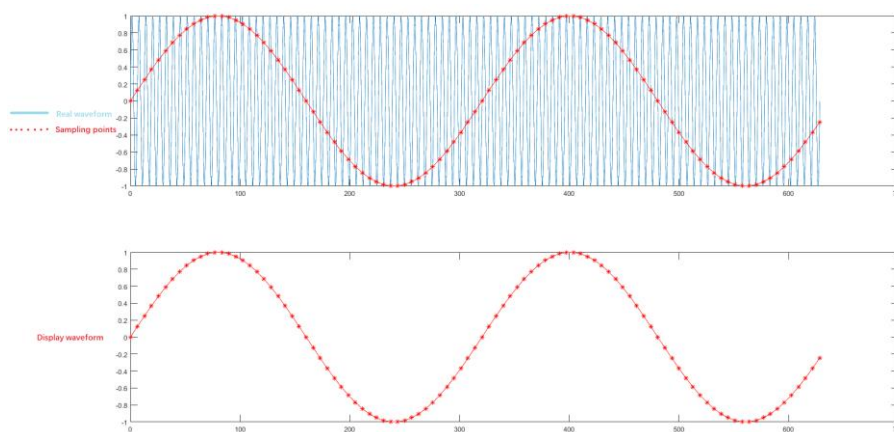

Figure 10-2
- ② **Wave Mixing:** When the sampling rate is 2 times lower than the actual signal frequency (Nyquist frequency), the frequency of the reconstructed signal will be less than the actual signal frequency. As shown in Figure 10-2.